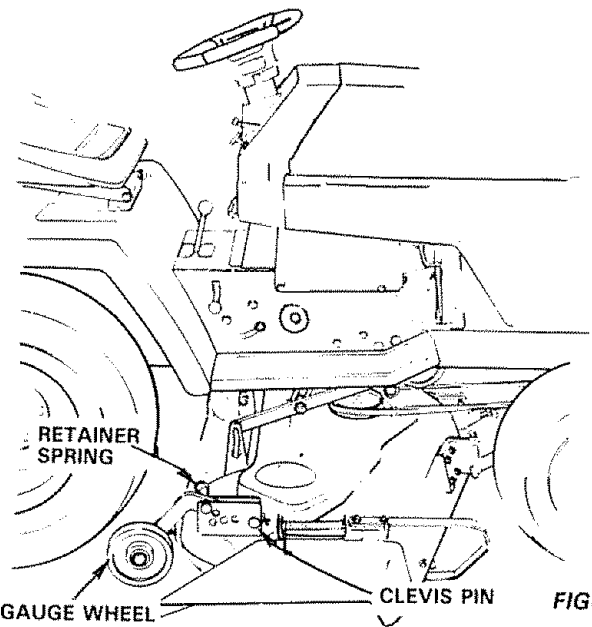

FIGURE 15
- a. To adjust gauge wheels (Fig 15) lower attachment.